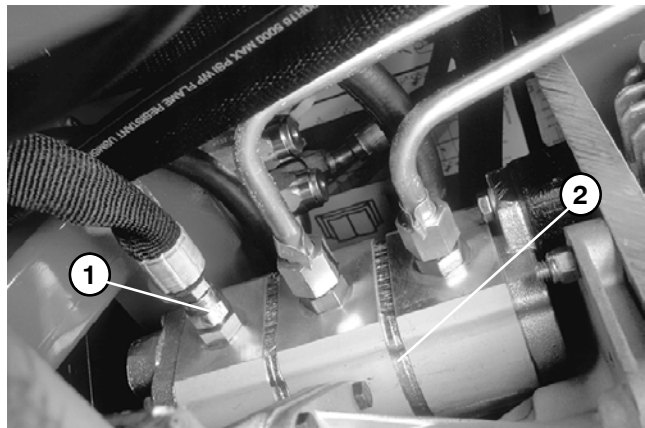

Figure 24
3. With the engine off and cutting units lowered, install tester in series between pressure hose and the gear pump section P3 (Fig. 24). Make sure the tester flow control valve is OPEN.